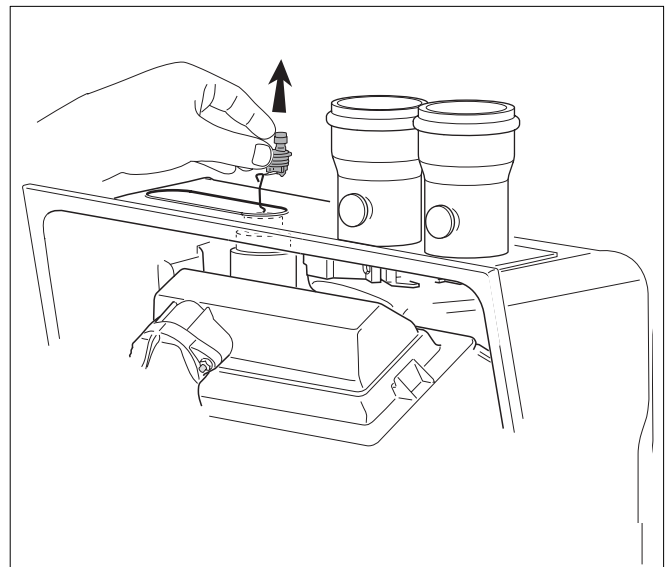

Fig. 103 Dismantling the valve case for the automatic air purging system
- Dismantle the valve case by pulling it upwards through the opening in the housing (see fig. 103).